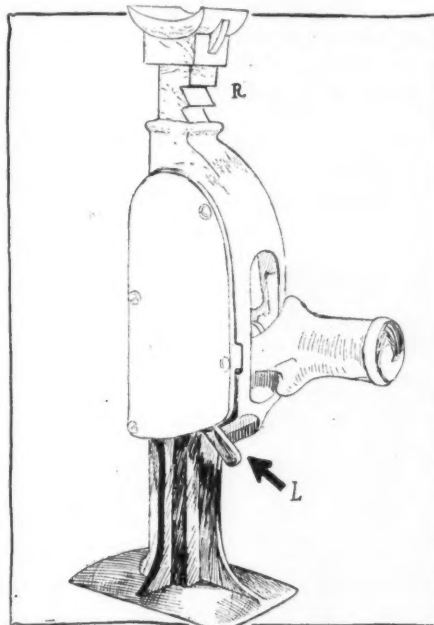

FIG. 41—COOK'S STANDARD JACK
**Cook's Standard Tool Co.**—The Standard jack of this concern has been improved by the addition of a reversing lever L, Fig. 41, which takes the place of the button heretofore used in this jack. To lower the load the lever L is pushed down by a cap with the handle or finger. Whether rais-